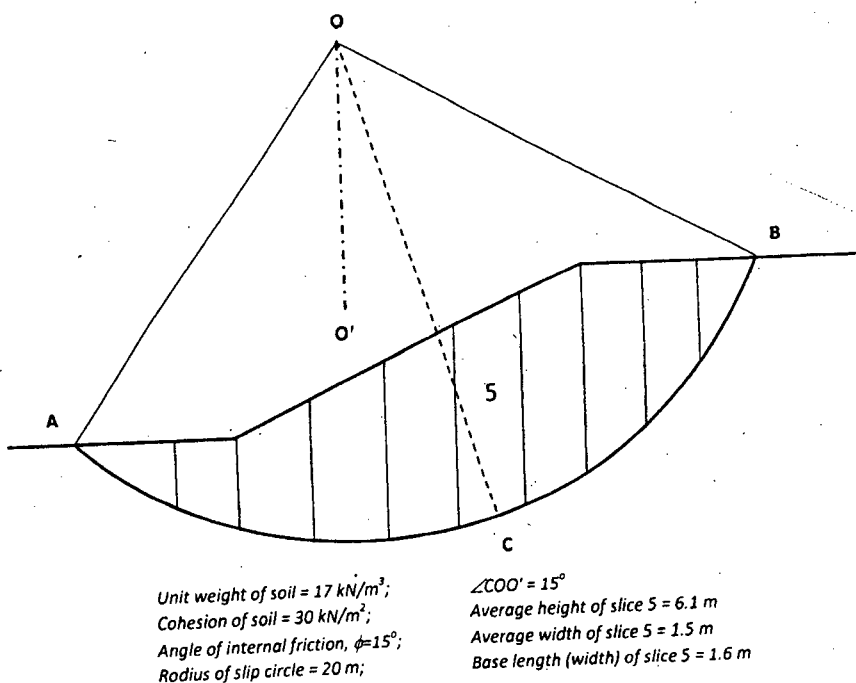

Fig. 1 Slip Circle for Method of Slices (for Question No. 7)
5. The blow counts for an SPT test at a depth of 6 m in fine sand at every 150 mm are 8, 12 and 15. A donut hammer and a standard split spoon sampler were used in a borehole of 150 mm diameter. Estimate the corrected N-value. The water table is at a depth of 2.0 m from ground surface. The unit weight of above water table soil is 16.5 kN/m^3 , whereas, below water table the saturated unit weight is 18 kN/m^3 . Given that rod length correction factor, $C_r = 0.95$, sampler correction factor, $C_s = 1.0$, Borehole diameter correction factor, $C_B = 1.05$, Donut hammer efficiency, $E = 45\%$. Assume reasonable values of any other data, if required. (14)
6. The soil profile at a site consists of 10 m of sand with $\phi' = 32^\circ$ and $\gamma = 18.0 \text{ kN/m}^3$, followed by a thick deposit of stiff clay layer with $C_u = 120 \text{ kN/m}^2$. The water table lies 3 m below the ground level. It is required to design a driven pile foundation to carry a load of 350 kN. Propose a reasonable design. (14)
7. Calculate the factor of safety of slice 5 as shown in Fig. 1, using conventional method of slices. Assume uniform soil condition and water table at great depth. (14)